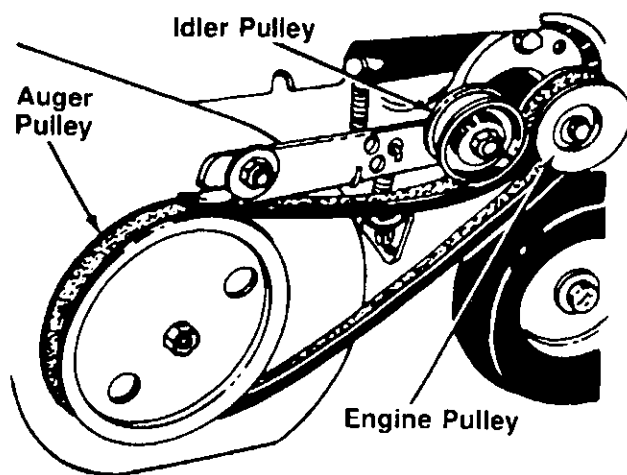

FIGURE 12.
3. Pull upward on the idler pulley and slip the belt off engine pulley. See figure 12.
4. Push down on idler pulley and slip the belt off auger pulley. See figure 12.